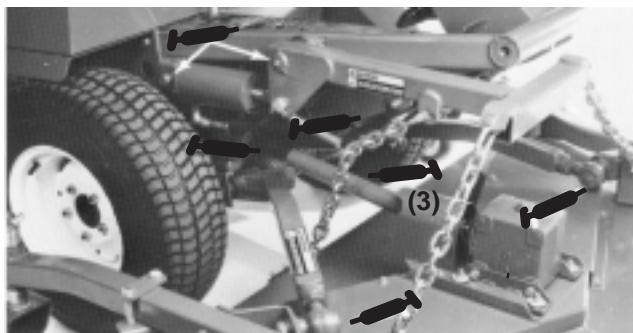

Figure 33
PTO shaft and yokes (3) (Fig. 33)
Lift arm pivots (Fig. 33)
Right and left push arm ball joints (Fig. 33)